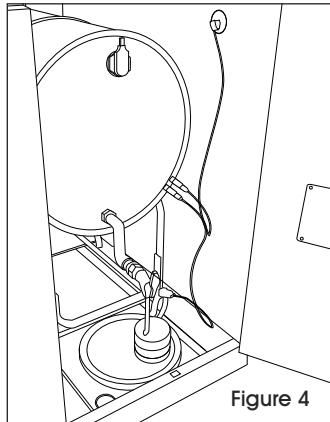

Figure 4
4. For internal cabinet grounding, when dispensing liquids inside a safety cabinet, it is important to ensure good electrical continuity through metal-to-metal contact of ground wires. (See Figure 4)